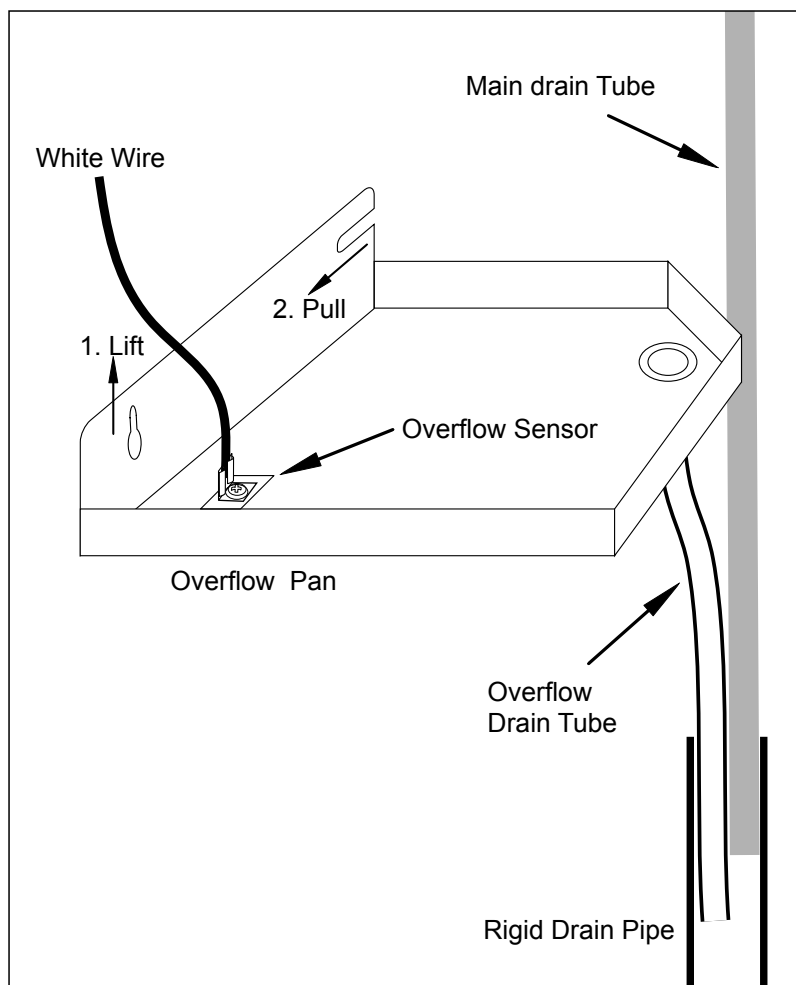

Fig. 8a
8.4 Unplug the white quick connect wire connected on the water pan at the bottom of the unit. This wire is connected to the overflow sensor. Please see Fig. 8a.
8.5 Pull the plastic tube attached to the bottom of the unit out of the rigid drain pipe on the wall. You do not have to remove the plastic tube attached to the bottom of the pan. Remove the overflow pan from the unit by slightly loosening the front screw then lifting the front of the pan off the screw and pulling it towards you. Please see Fig. 8a. Remove the main drain tube from the rigid drain pipe attached to the wall and check that they are both clean and clear from deposits.